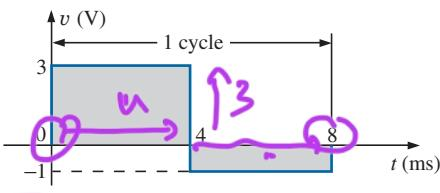

FIG. 13.46
a. Fig. 13.46.
The response of a dc meter to the waveform in Fig. 13.46.